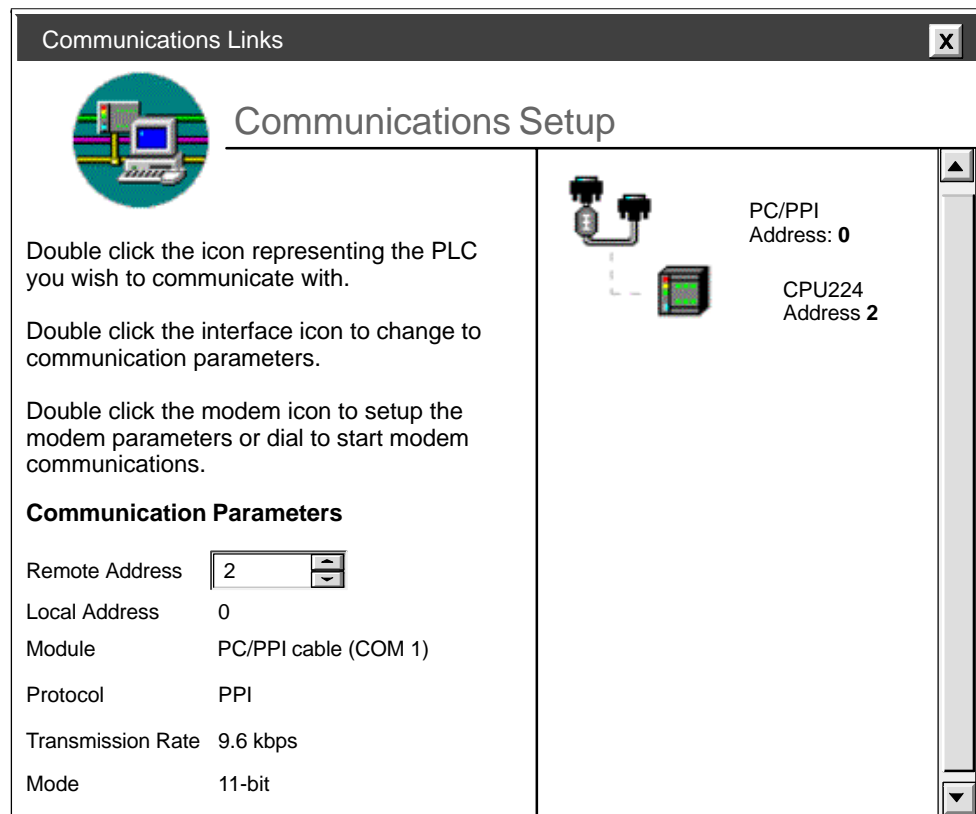

Figure 3-4 Communications Links Dialog Box
2. Double click the refresh icon in the Communications Links dialog box. STEP 7-Micro/WIN 32 checks for any S7-200 CPUs (stations) that are connected, up to the highest station address in the specified communication parameters. A CPU icon appears on the Communications Links dialog box for each connected station. See Figure 3-4.